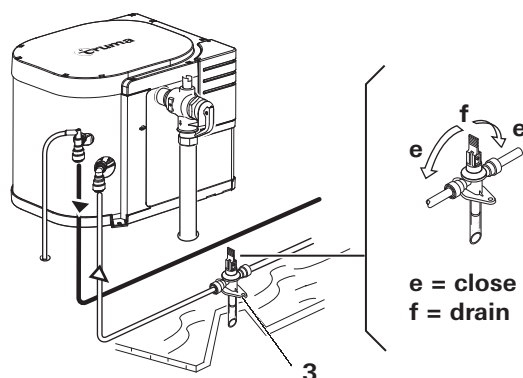

Fig. 2
- Close drain valve (Fig. 2 - 3).
- Open drain valve (Fig. 2 - 3).
- The drain valve (Fig. 2 - 3) and the P&T safety valve (Fig. 2 - 4) are to be operated regularly to remove lime deposits and to ensure that they are not blocked. Frequency: every 6 month.